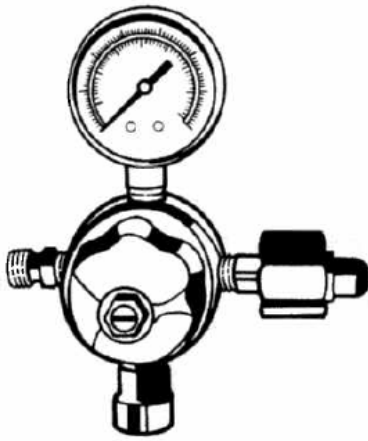

Figure 3
"Pre-Set" (Figure 3)
- (c) Pre-Set Regulator (Figure 3)—This regulator is usually used where cylinders are located remote from the equipment being used, and is connected by pressure tubing or hose. Intermittent Positive Pressure Breathing devices or a respirator where flow controls are already provided are examples of equipment where pre-set regulators are used. Be sure valves on auxiliary equipment are closed before opening the cylinder valve. Be certain that auxiliary equipment is rated for use at 50 psig.